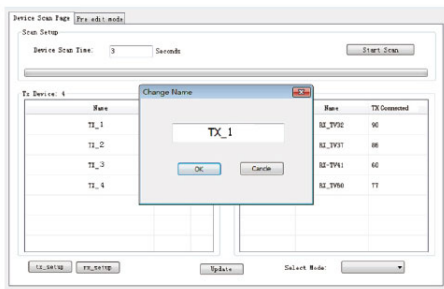

Figure 4
2. Double click on a TX unit to update, then click OK to save the changes, see Figure 4.